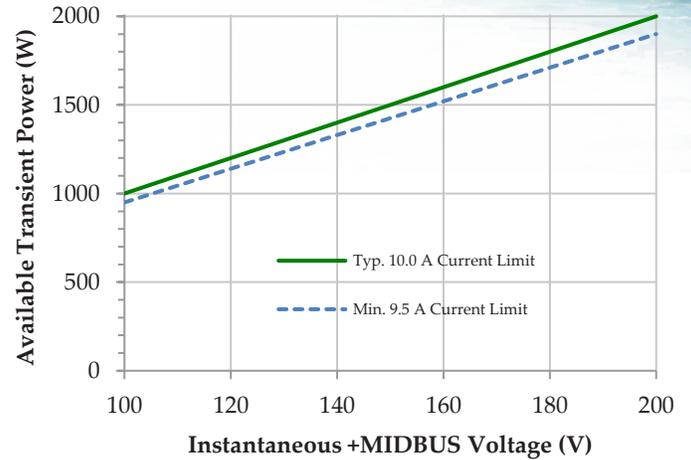

Figure 16: +VOUT Available transient power vs. instantaneous +MIDBUS voltage. See Figure 13 for steady-state voltage.
- 2) Multiply this minimum +MIDBUS voltage by 9.5 A (the worst-case minimum value for +MIDBUS current limit) to obtain the minimum value during the transient for available power (see Figure 16).
Transients applied at either +VOUT or +MIDBUS will cause a significant dip in voltage at +MIDBUS, which must remain high enough to sustain the applied load power, as shown in Figure 16. Higher values of external capacitance at +MIDBUS will reduce the deviation seen during a load transient, as shown in Figure 17.
For instance, with 100 μF of external +MIDBUS capacitance, a transient from 0% to 75% rated power is handled easily: as seen in Figure 16, the required +MIDBUS voltage to sustain
Holdup capacitance may instead be placed at +VOUT if dips in the output voltage are acceptable during a line interruption. During a line brownout, the diodes in the buck PFC stage remain reverse-biased until the +MIDBUS voltage drops below the level shown in Figure 13. Using relatively low capacitance at +MIDBUS allows the +MIDBUS voltage to drop to this level quickly, allowing the converter to contribute some power to +VOUT (see Figure 16). The voltage rating for capacitors at +VOUT should be at least 320 Vdc.
$V_f$  is the minimum capacitor voltage during the transient. (For cap at +MIDBUS, determine from Figure 16; for cap at +VOUT, determine based on downstream requirements.)
When the holdup capacitor is located at +MIDBUS,  $V_i$  will be a function of line voltage (see Figure 13) and load current (+MIDBUS will typically droop to 200 V at full load).  $V_f$  will be a function of load power during line interruption because of the +MIDBUS current limit (see Figure 16 and further discussion in the section entitled “+MIDBUS Current Limit”).
- 4) Current limit tolerance (9.5 A minimum, which raises the required  $V_f$  to sustain load power as shown in Figure 16)
Figure 20 shows an example of a 50 ms line interruption. Note that for the conditions in Figure 20, the ideal equation would predict  $C_{holdup} > 6$  mF. Yet the actual capacitor used was 7.5 mF, chosen to keep the minimum voltage well above the available transient power shown in Figure 16 and to account for the combined effects of items 1, 2, 5, and 6 discussed above.